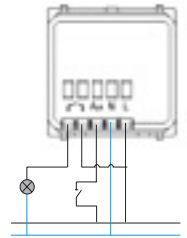

Figure 3: Basic wiring diagram
The electrical wiring of these devices is performed according to the wiring diagram shown in Figure 3. The terminal marked "L" shows the phase wire of the installation. The terminal marked "N" shows the neutral wire of the installation. The terminals marked  represent the two terminals of the relay output (voltage free).
1. Connect the device based on the wiring scheme. Figures 3, 4 and 5.